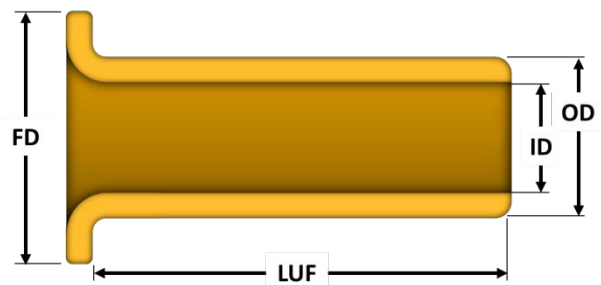

Figure 07-8 Eyelet Specifications
Eyelets are tubular fasteners and are categorized by the outside diameter (OD), the inside diameter (ID), the flange diameter (FD), and the length under the flange (LUF) [see Figure 07-8].